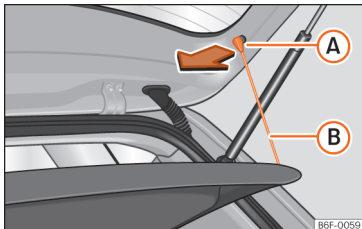

Fig. 164 In the boot: removing and installing the shelf.
- Detach the cord loops >>> Fig. 164 **B** from their hooks **A**.
- Attach the securing straps >>> Fig. 164 **B** onto the rear lid.